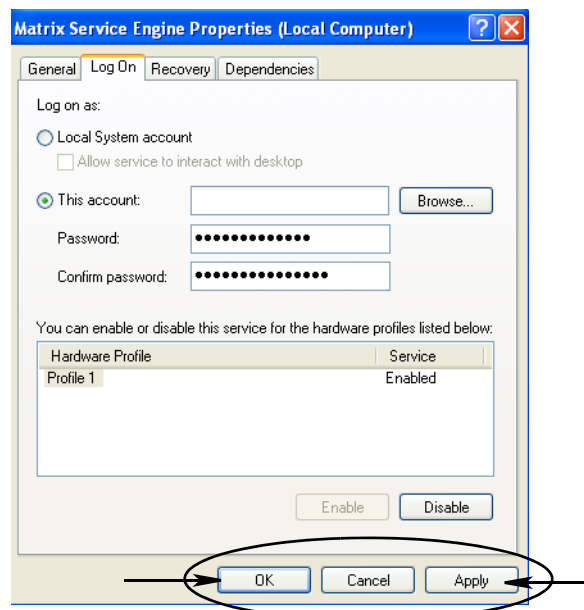

FIG. 60
- If the computer cannot find the user name, the error message shown in FIG. 60, page 55 displays. Continue with step j.
- i. Click the Apply button to apply the changes and then the OK button (FIG. 60).